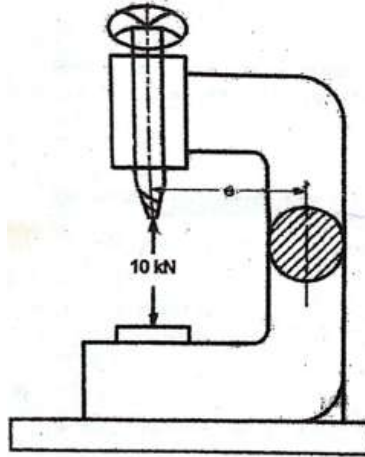

Fig. No. 1 [Q. No. 6(c)]
- c) The spindle of a drilling machine is subjected to a maximum load of 10 kN. Determine the diameter of solid C.I. column of machine if tensile stress is limited to 40 N/mm2. The distance between axis of spindle and axis of column is 330mm. Also find the direct stress and stress due to bending in the column. (Refer figure No.1)